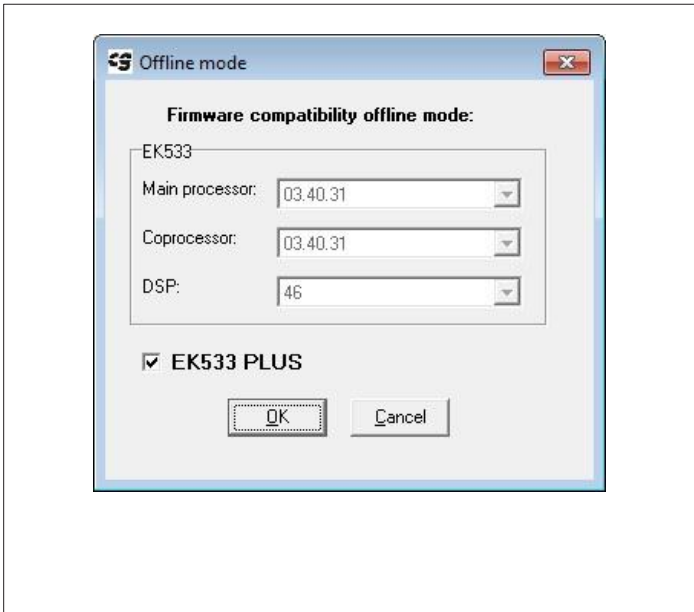
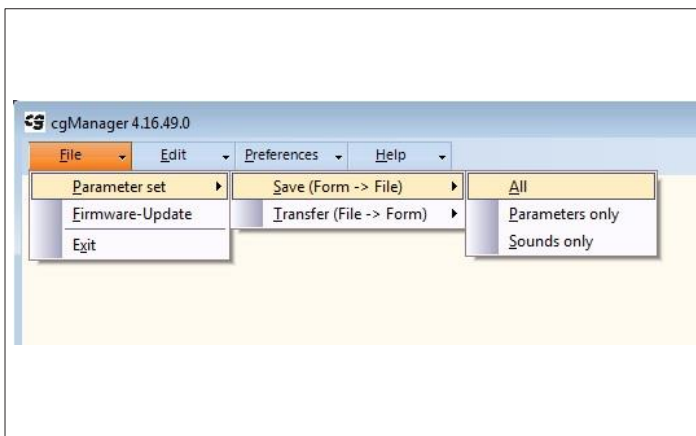

Fig. 86
Fig. 90
- Carry out all of the steps in "8.1", Fig. 86 - Fig. 90.